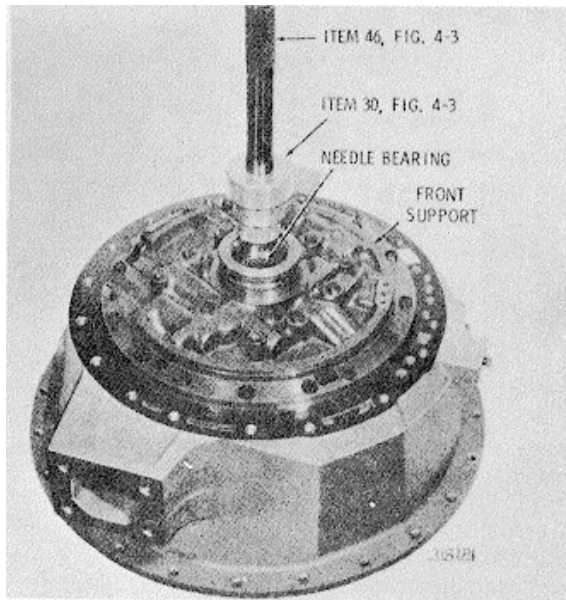

Fig. 6-17. Tool for installing front support needle bearing.
(1) If the needle bearing was removed from the front support (fig. 6-17), install a new bearing. Installer 30 (fig. 4-3) may be used with handle 46 for driving the bearing, or without the handle when press-installing the bearing.